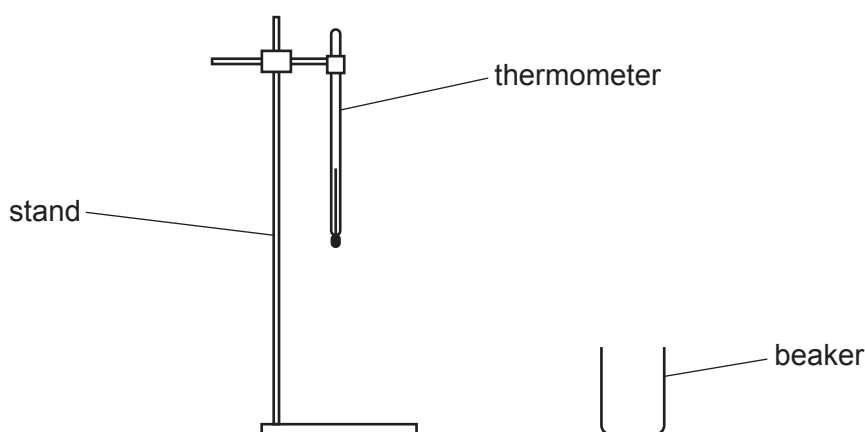

Fig. 6.1
4. The thermometer is to be held vertically using the clamp, boss and stand and set up by the supervisor, as shown in Fig. 6.1. Ensure that the clamp does not obscure the temperature scale of the thermometer. The bottom of the thermometer bulb must be above the level of the top of the beaker.
Remove the thermometer and empty the water from the beaker. Assemble the apparatus as shown in Fig. 6.1.